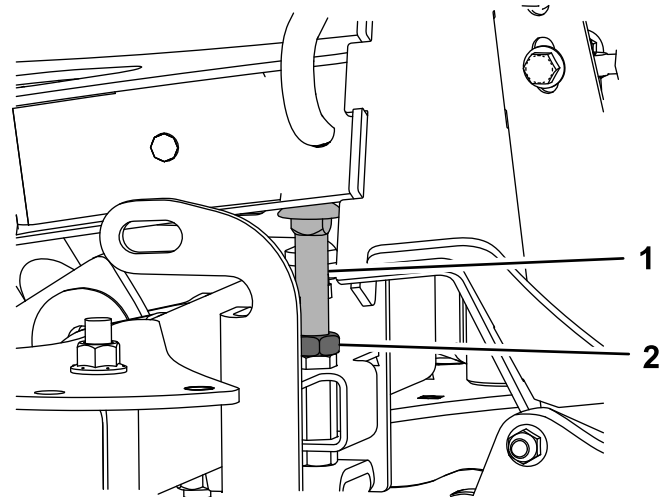

Figure 17
- C. Adjust the stop bolt until it holds the A-frame at the correct height above the machine frame (Figure 17).